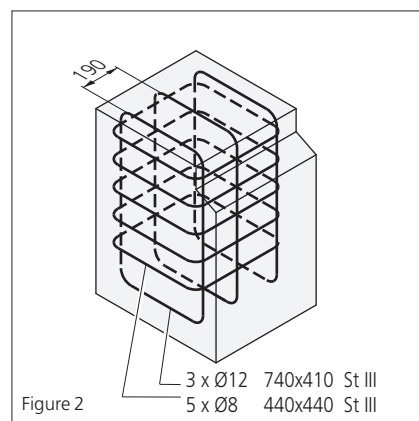

Figure 2
3. Concrete the foundation hole using BH PC 250 concrete (concrete strength $W = 25 \text{ N/mm}^2$). For barriers, the concrete must be reinforced (Figure 2).